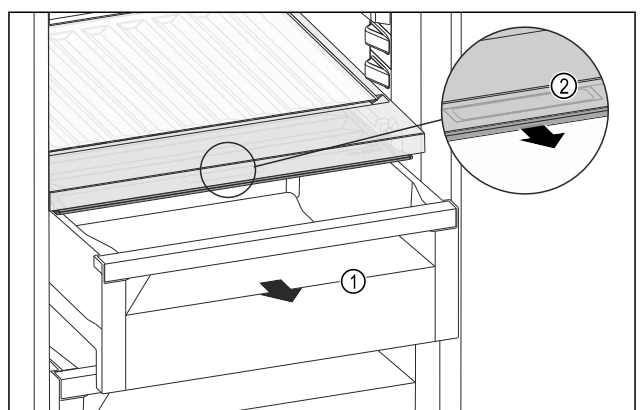

Fig. 132
- ▶ Pull out the drawer Fig. 132 (1).
- ▶ Grasp the recessed grip Fig. 132 (2) on the compartment lid and pull the compartment lid forwards at the same time.